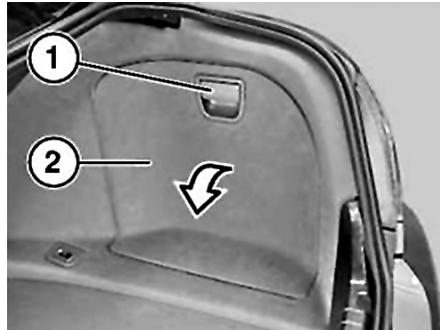

Fig. 1 Access door location
3. Lift lever (1) and open access door (2), Fig. 1.